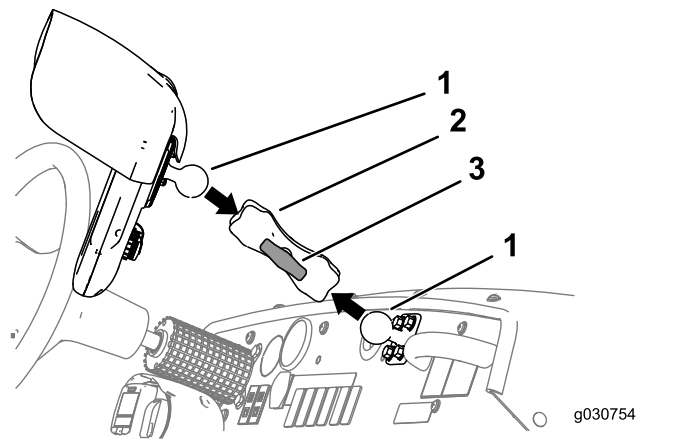

Figure 159
- Loosen the knob of the monitor arm until you can slip both the ball pivot for the fitting at the back of the sprayer monitor and the ball pivot for the mount at the dash panel into the socket monitor arm (Figure 159).
- From the driver's seat (left seat), adjust to position of the sprayer monitor so that you can easily view the display screen (Figure 159).
- Tighten the knob for the monitor arm by hand (Figure 159).